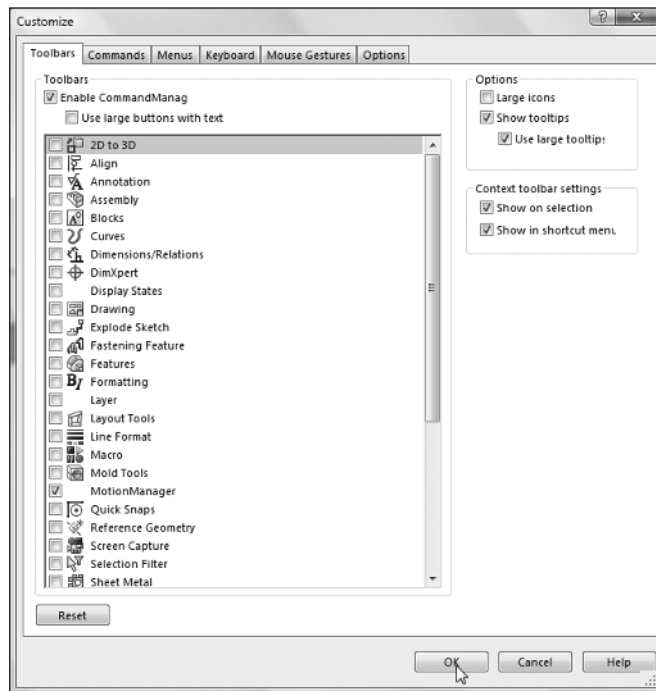

FIGURE 1.24 Customize window
3. Once you are finished making modifications to the CommandManager, click OK in the Customize window, shown in Figure 1.24.